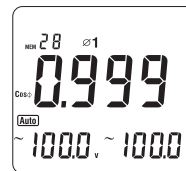

Figure 20
4. When measuring 3 phase 4 wires: (see figure 20, 21, 22)
- Press **SELECT** to choose the first phase  $\phi 1$ , see figure 20.